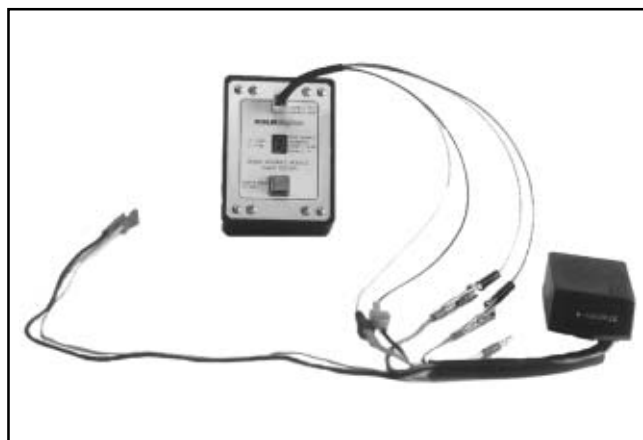

Figure 8-13.
3. Disconnect the yellow and brown tester leads from the long module leads. Connect the brown tester lead to the short brown module lead. Connect the yellow tester lead to the short yellow (or pink) module lead. See Figure 8-13. Leave the red and green leads connected. Repeat step 2.